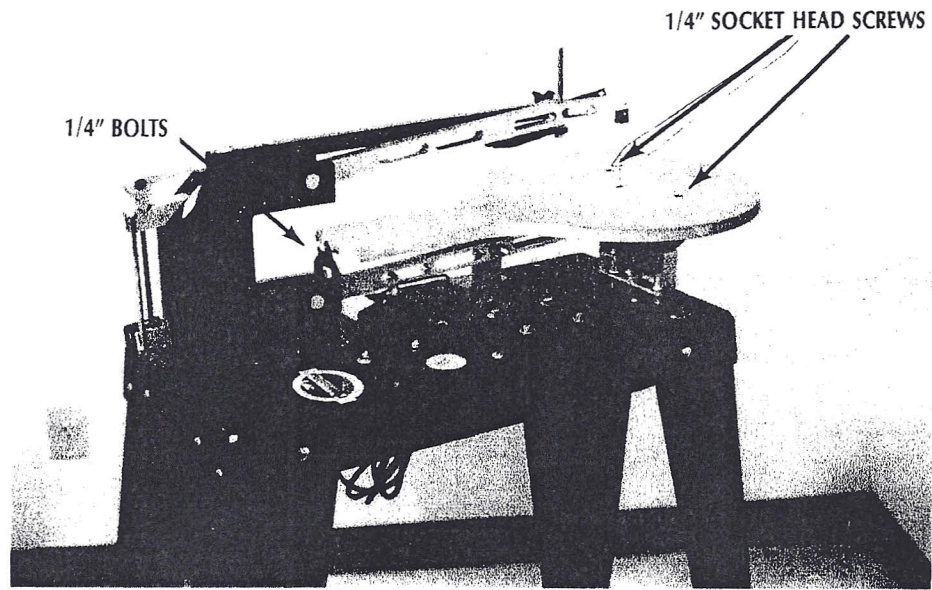

FIG. 12
3. Loosen and remove the two 1/4" countersunk socket head screws located at the front of the table. (fig. 12)